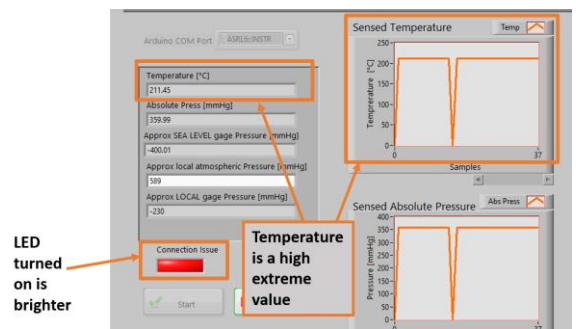

Figure 19. Calibrated IntraSense KIT VI main window with wire issues.
- b. The next case is when the connection between the Distal End and the Proximal End has an issue. If this is the case, the red LED will be turned on and the temperature indicator and chart will show an extreme high value (Figure 19). The reason of this